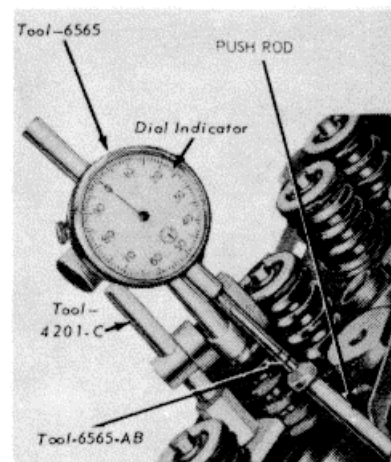

FIG. 3 Testing Camshaft Lobe Lift Typical
3. Make sure the push rod is in the valve lifter socket. Install a dial indicator in such a manner as to have the ball socket adapter of the indicator on the end of the push rod in the same plane as the push rod movement (Figure 3).